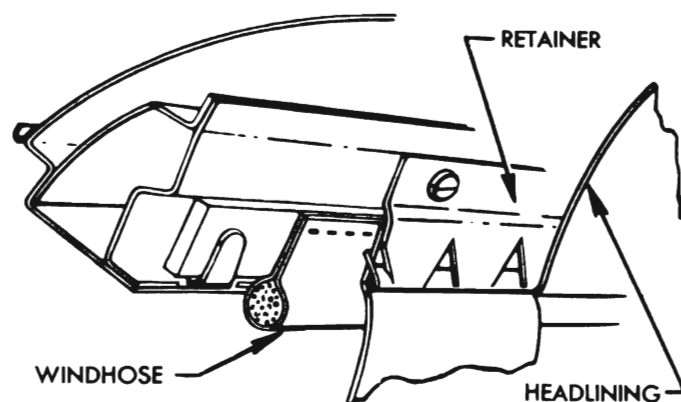

Figure 13-47—Headlining Retainer—1949 Series 50-70
In 1948 Models, the headlining is secured along the roof rails above the doors by tacks covered by wire-on trim moldings. In 1949 Series 50-70, the headlining is secured along the sides by metal retainers attached by screws to roof side rails. The retainers have lanced teeth pointing upward to hold the headlining material in place between the retainers and wind hose. See figure 13-47.
- 6a. On 1949 Series 50-70, disengage the headlining from the retainers along both roof side rails, starting at the front corners. See figure 13-47. Remove the screws attaching headlining wire supports to the right side roof rail. These supports are located between the roof bows, and in the rear quarter section.
4a. On *1949 Series 50-70*, make sure that headlining retainers are firmly fastened to roof side rails, then carefully tuck the edges of headlining up between the retainers and the wind hose, using Headlining Inserter J 2772. See figures 13-47 and 13-48.